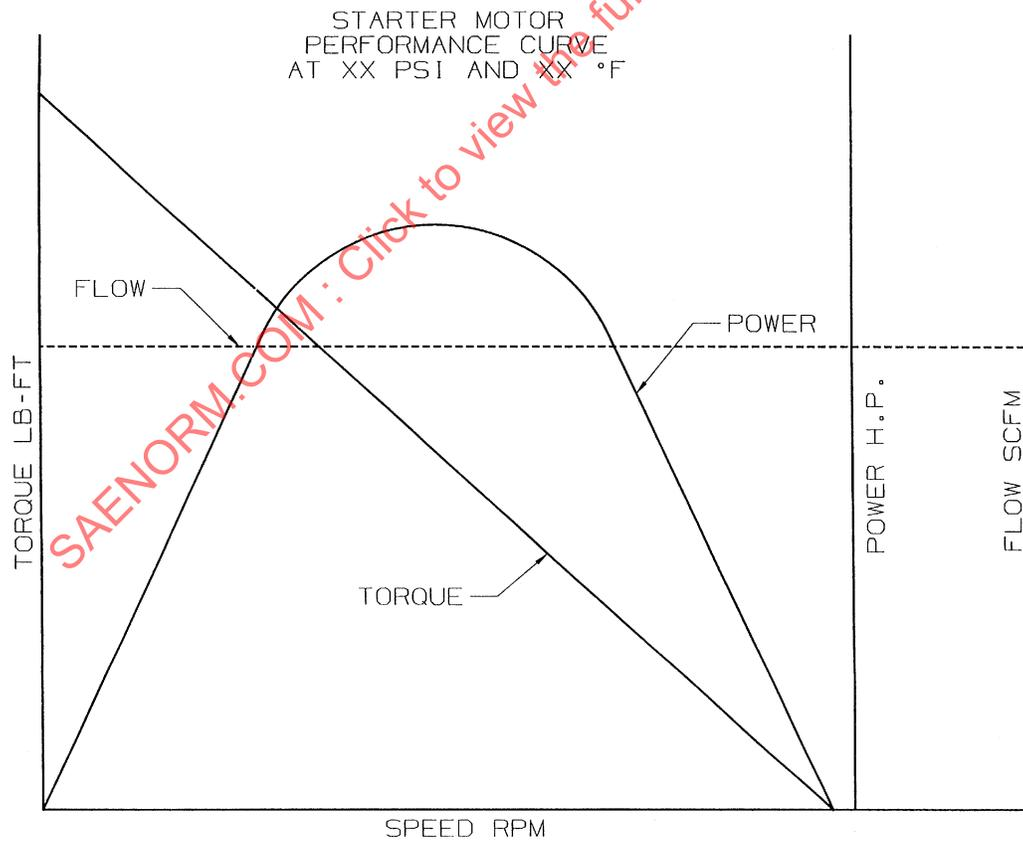

FIGURE 2—STARTER MOTOR PERFORMANCE CURVES AT SPECIFIC PRESSURE AND AMBIENT TEMPERATURE
- 3.1.1 TEST METHOD A—Run the starting motor at various discrete torque loads and record the air inlet and exhaust pressure, air temperature, torque, air flow, and speed. Sufficient points should be recorded and a linear regression method should be used to generate smooth torque, power, and flow curves from the respective data points. A typical performance curve is shown in Figure 2.